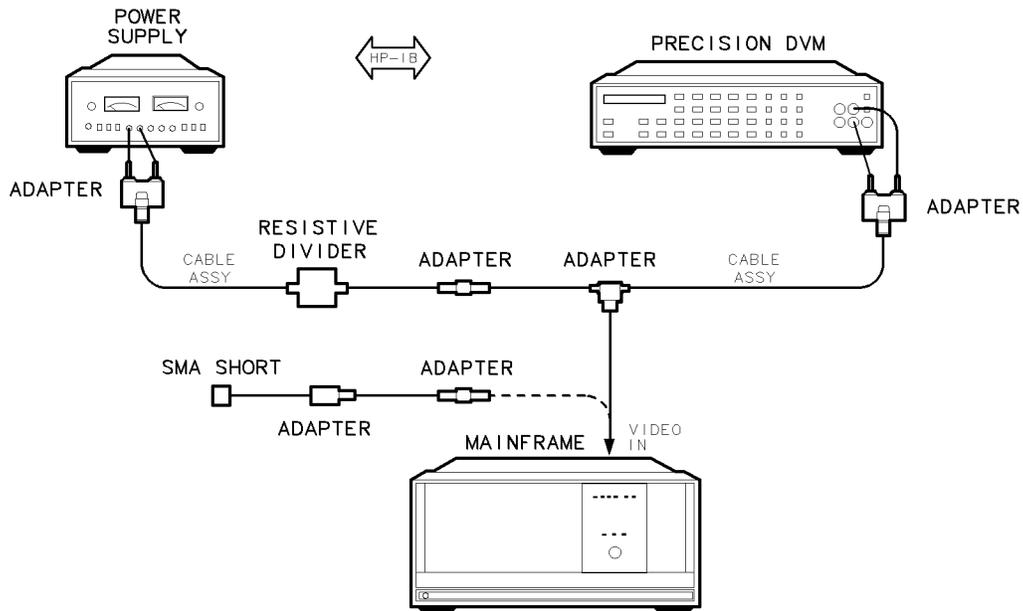

Figure 6-1. Equipment Setup for Adjustment 01. Video Processor
2. Connect the power supply to the 20:1 resistive divider, as illustrated in Figure 6-1. Connect the other end of the divider to the SMB tee adapter, then connect this adapter to one side of the tee. Connect the precision DVM to the other side of the tee, and connect the HP 70900B local oscillator source rear panel video jack to the third connector on the tee. Turn on the power supply. Do not allow the power supply to exceed 40 V. Turn on the mainframe.